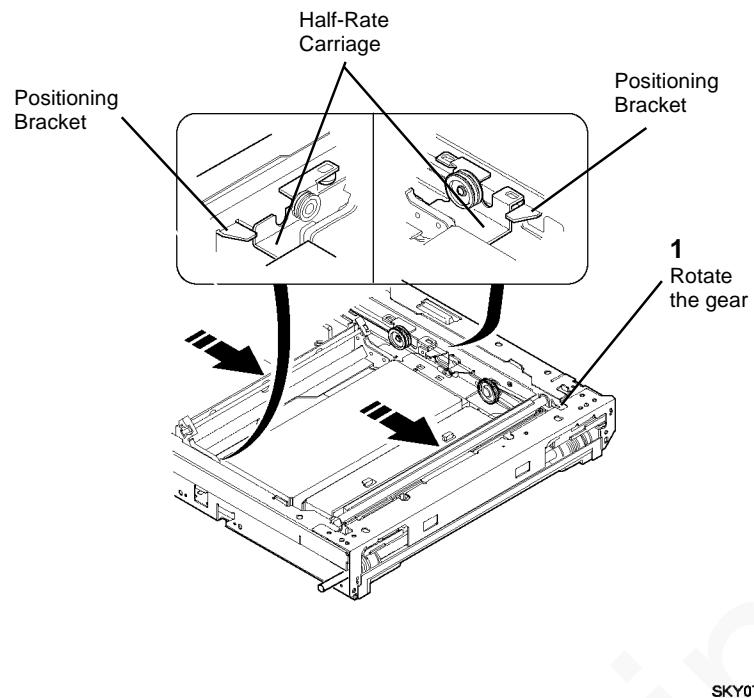

Figure 4 Checking the Contact of the Half-Rate Carriage
3. (Figure 4): Rotate the Scan Drive Gear until the Half-Rate Carriage comes in contact with the Positioning Brackets.